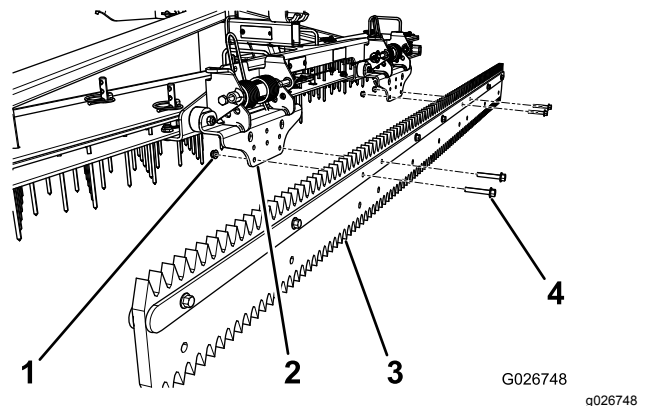

Figure 9
1. Remove 4 screws and nuts as shown in Figure 9.
2. Align the holes in the groomer to the lower holes in the spring bracket assemblies (Figure 9).
3. Use the previously removed 4 screws and nuts to secure the groomer to the spring bracket assemblies (Figure 9).